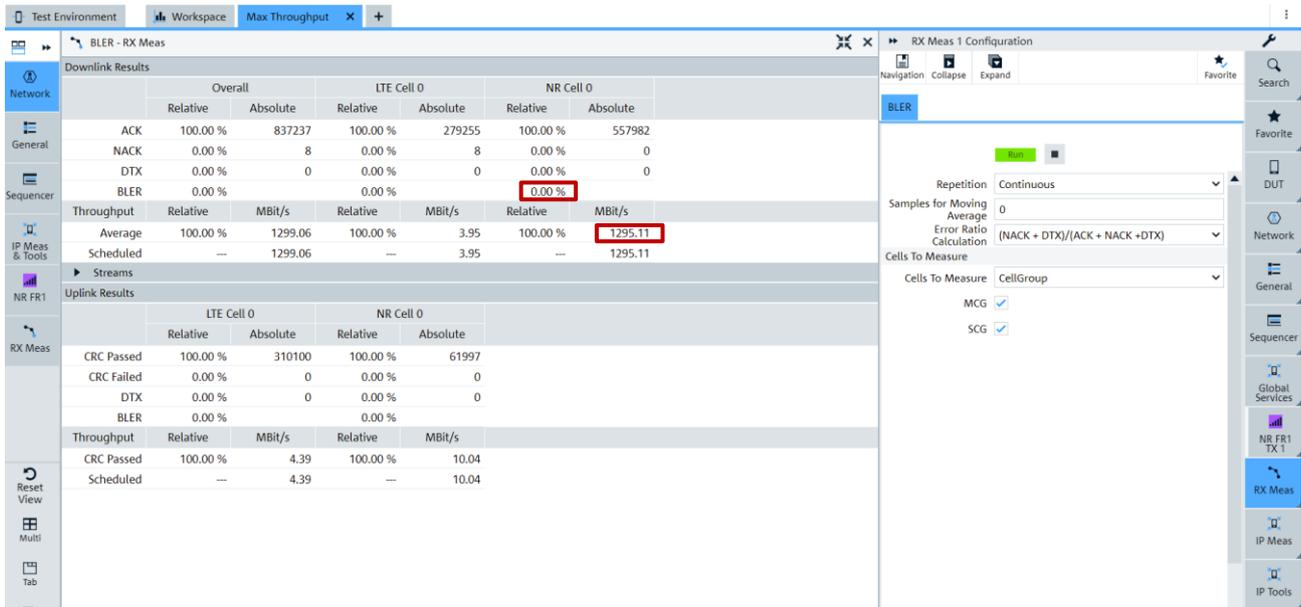
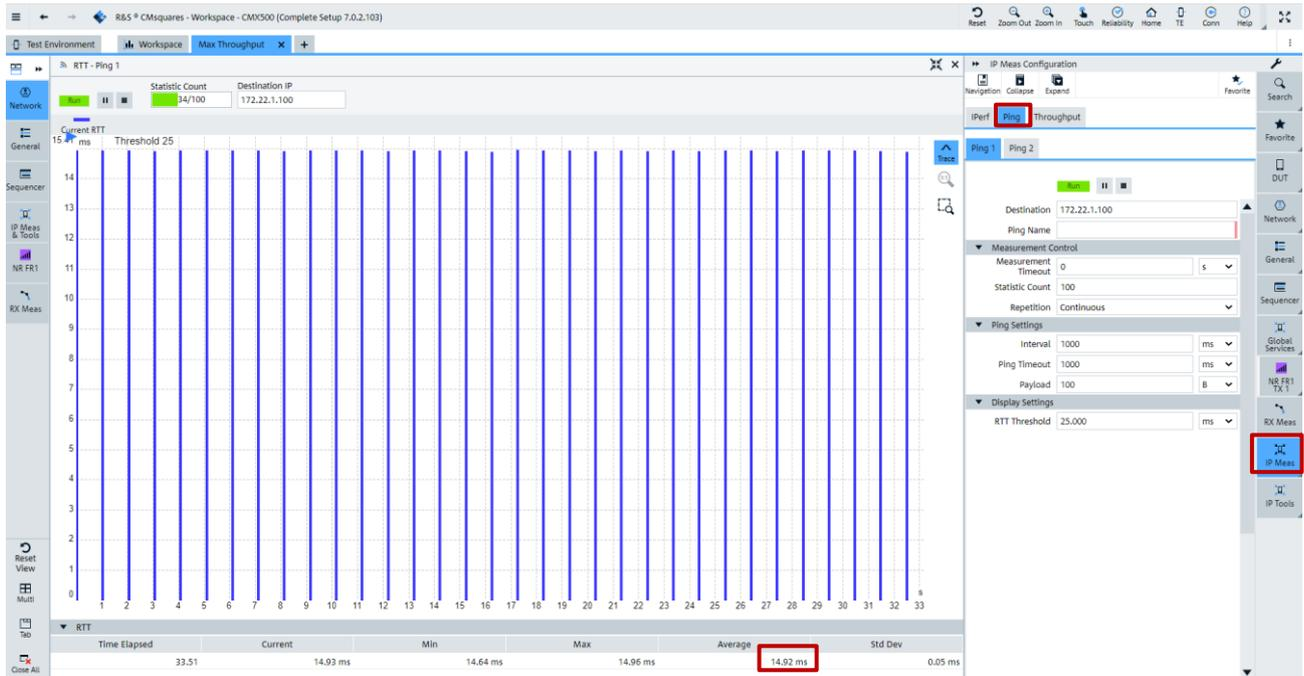

Figure 55 BLER measurement
Figure 56 Round Trip Time (RTT) measurement
In 'BLER-RX Meas' square, the scheduled DL data rate and actual measured DL BLER and data rate over different radio access technology (RAT) are presented. Example in Figure 55 shows the scheduled DL data rate has 1295.11 Mb/s over NR cell and DUT achieves 0% DL BLER. In addition to DL, UL BLER measurement, UL data throughput and scheduled UL throughput are presented there as well.
The result example shown in Figure 56 indicates the average 14.92 ms RTT of the connection.
Example shown in Figure 55 and Figure 56 deliver scheduled DL throughput 1295 Mb/s and RTT 14.92 ms, respectively. To achieve optimal throughput, a minimum TCP window size (BDP) of 2.415 Mbyte is required according to Equation 3. Since iPerf tool applies already 6 MB as default TCP window size which is larger than our calculated value here, there is no need to specify explicitly the TCP window size in iPerf command, i.e. iPerf `-w` option is omitted here.
Example shown in Figure 55 gives the scheduled DL throughput 1295 Mb/s. Based on that, bandwidth parameter on the client side needs be set to a value that is no lower than the scheduled DL throughput, e.g. 1300 Mb/s, to ensure that the test condition for maximum throughput of UDP DL is met. On the server side, big enough buffer size needs also to be specified through iPerf command line option '-w'. Default UDP buffer size used by iPerf tool on DUT is 256 kB which might be too small at high data rate. 4 MB buffer size as an experience value is recommended to be used here.
- Configure iPerf in CMSquares, make sure the bandwidth is set no lower than the scheduled rate (see Rx measurement in Figure 55 to obtain the scheduled rate) and press ▶ key to start to send UDP packets at the configured data rate (see Figure 60).
In our example here, scheduled UL throughput is indicated in Rx measurement in CMSquares (shown in Figure 55). It is expected to achieve 10.04 Mb/s throughput. RTT is about 14.92 ms (see Figure 56). Therefore, minimum TCP window size is 18.7 kB according to Equation 3. The default window size used by iPerf is 6 MB which is larger than our calculated window size here, therefore, the default value will still be applied. In CMSquares, the value '0' in window buffer size field in iPerf service means the default value is used.
For example, from the UL Rx measurement shown in Figure 55, we already know that the target UL throughput is about 10.04 Mb/s. For UDP UL, we can refer to this value and assign a larger value, e.g. 15 Mb/s, to iPerf bandwidth `-b` option. Therefore, iPerf command on client side turns to be `'iPerf -c 172.22.1.201 -u -b 15M -i 1 -t 60'`.